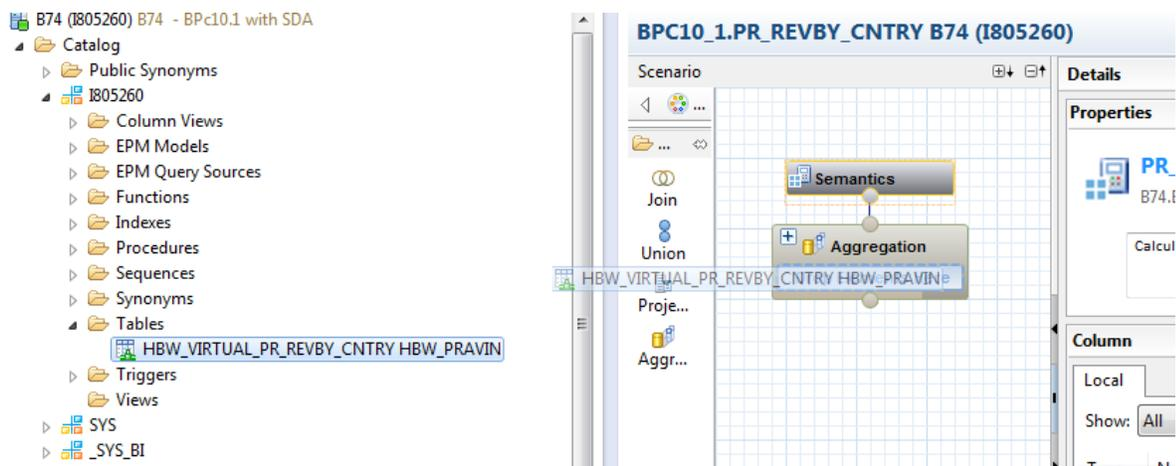

Figure 17 – Configure the calculation view
1.10 **Configure the calculation view** – The above step will open the editor as shown in Figure 17. Locate the virtual table created in step 1.4 and drag and drop the same on the 'Aggregation' as shown in Figure 17.